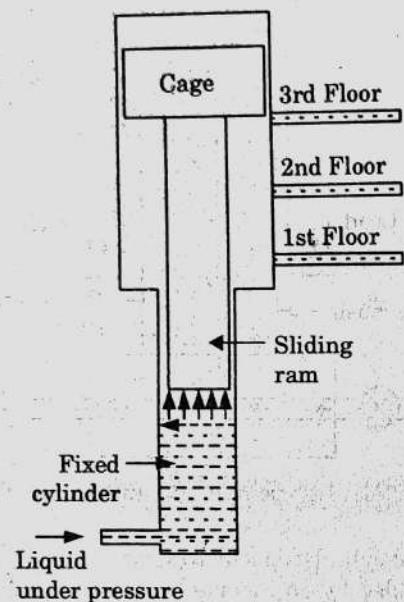

Fig. 3.24.1. Hydraulic lift.
1. It consists of a ram, sliding in fixed cylinder as shown in Fig. 3.24.1.